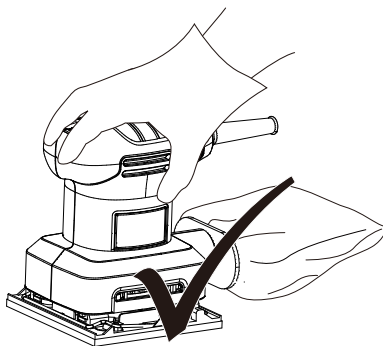
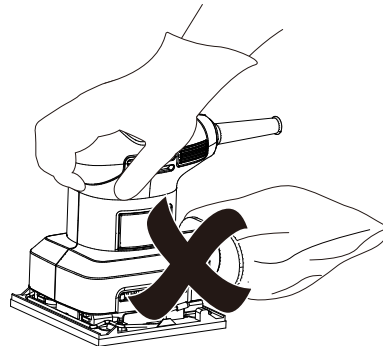

Fig. 16
Fig. 17
**WARNING!** Sound level may exceed 80dB (A). Therefore always wear ear defenders when sanding.
- > Hold the product firmly by the gripping surface (2) (Fig. 16). Do not cover the air vents (3) (Fig. 17).